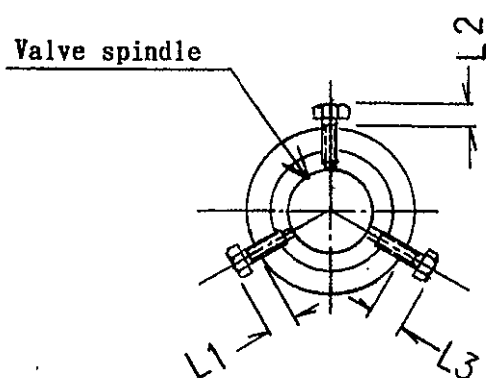

Fig. 5
- a) Slightly tighten three centering bolts in the valve spindle mounting, so that the each height of the three bolts sticking out, L1, L2, and L3 are visually adjusted to be equal each other. (As shown in Fig. 5)